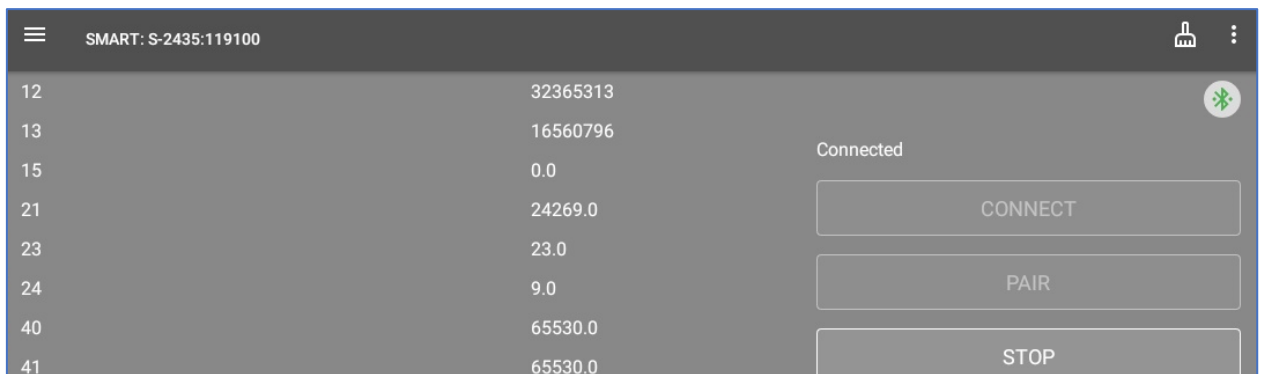

fig.3.12. Connection screen
- 9) After choosing the list of parameters click «**START**» button to read data (fig.3.12). After successful connection two columns appear: the identifiers (according to Appendix 1) and their values.